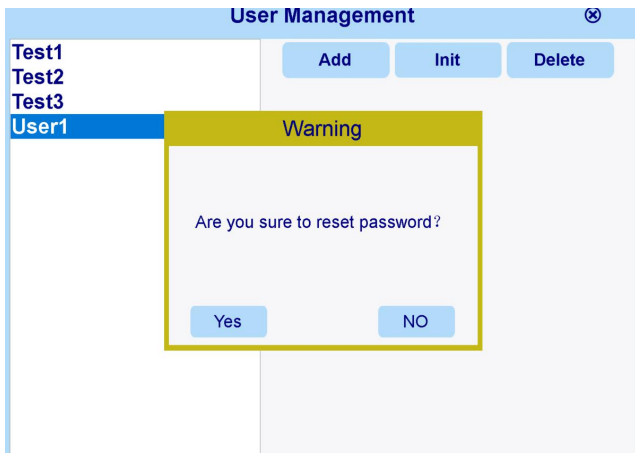
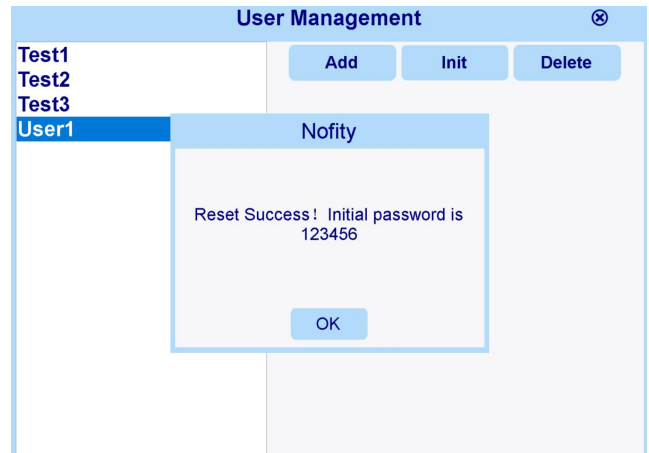

Figure 5-9 User reset interface
Figure 5-10 User reset successfully
- **Reset user:** Click the "Init" button. The Admin administrator account can reset the Common user password (Figure 5-9) . The reset password is: 123456 (Figure 5-10) ;